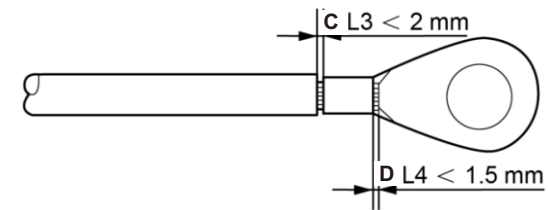

Figure 3.17 Strip wire
- 4) Insert the stripped wire into the OT terminal crimping area and use the hydraulic clamp to crimp the terminal to the wire (see Figure 3.17).